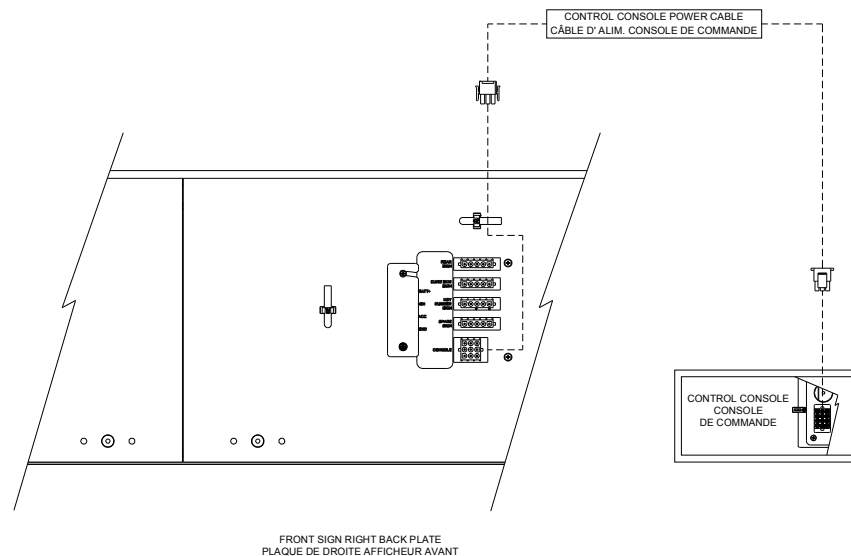

Figure 3: Control Console Cable Connection
- Connect the Control Console extension cable (9-pin connector) to the **CONSOLE** connector (9-pin connector) located on the Back Plate of the Front Destination Sign. (See Figure 3)
- Connect the other end of the Control Console extension cable (12-pin connector) to the corresponding connector located on the Control Console. (See Figure 3).